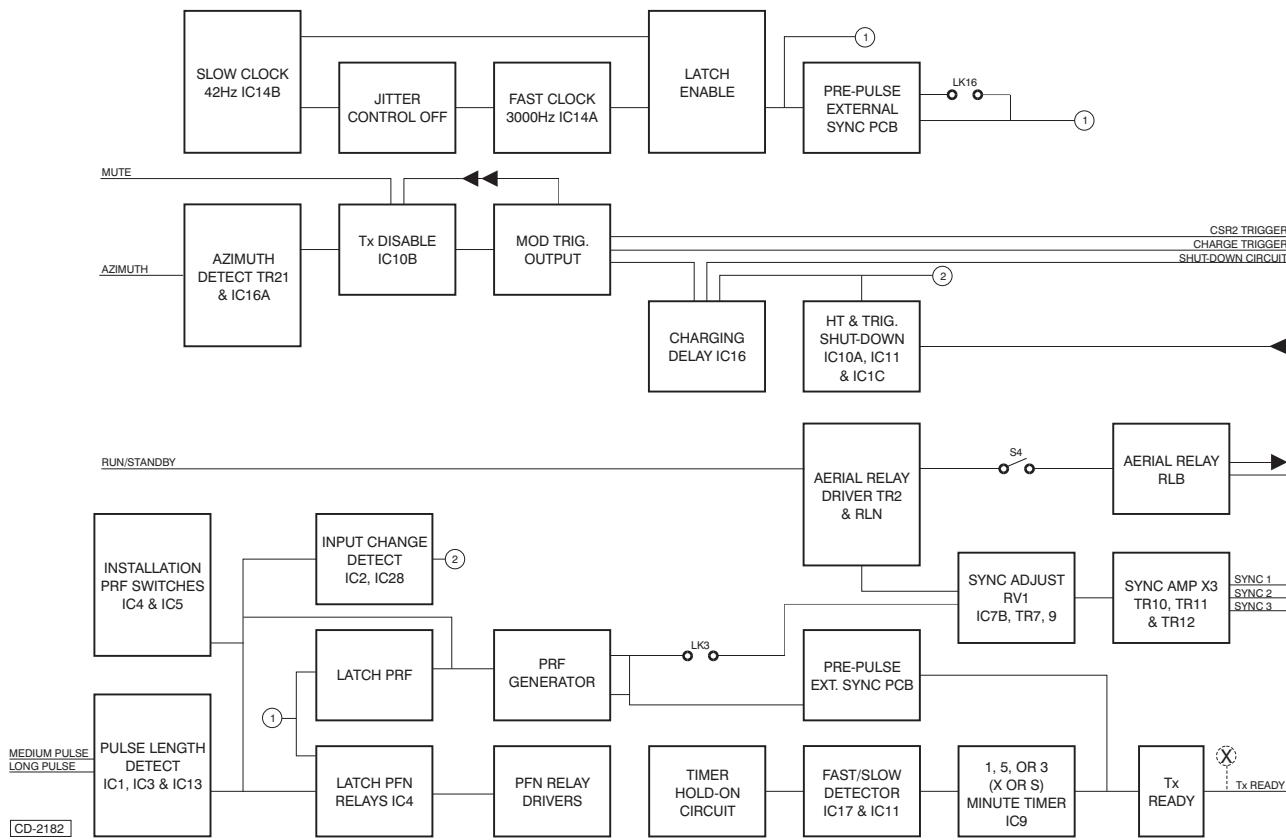

Figure 2a - Modulator Control Block Diagram
- 6 A block diagram of the Modulator Control circuit is shown in Figure 2a, below.